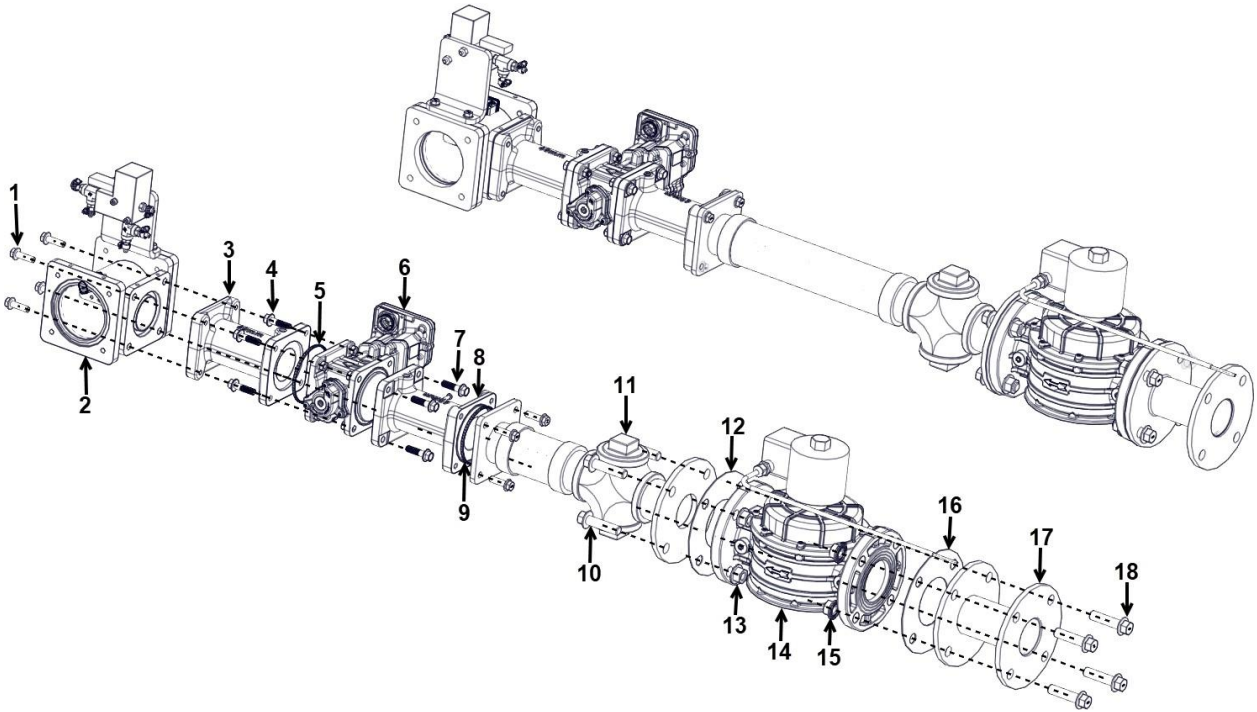
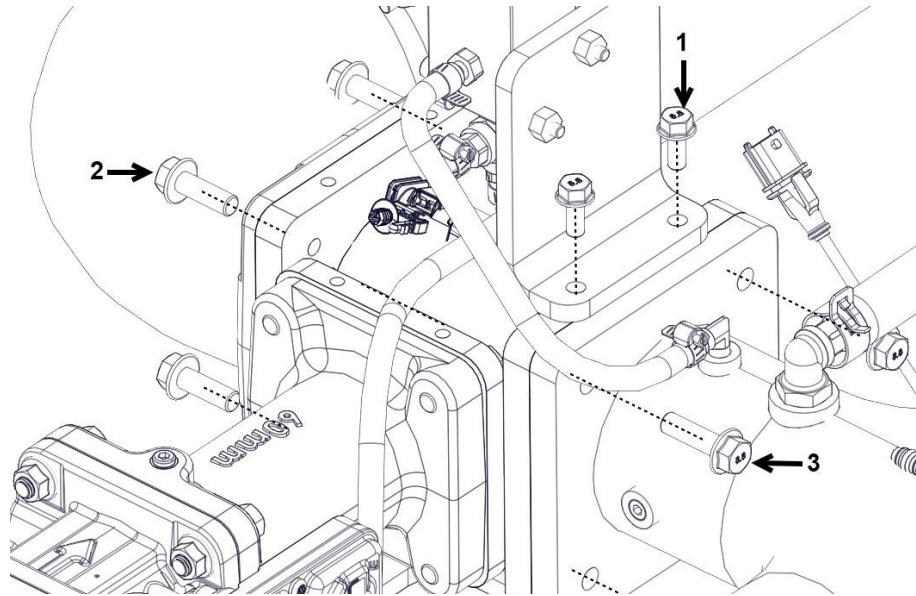

Figure 31. Fuel System Assembly
Figure 34.
- If the fuel system is removed use all new gaskets and O-rings (Figure 31, Items 5, 9, 12 & 16)
1. Remove the four bolts and nuts (Figure 31, Item 10, 13, 15 & 18) from the lock-off valve (Figure 31, Item 14).
4. Remove the two bolts (Figure 34, Item 1) on the electronic boost control bracket and remove all bolts on the nozzle (Figure 34, Items 2 & 3).
2. Insert and hand tighten the four bolts and nuts (Figure 31, Item 10, 13, 15 & 18) from the lock-off valve (Figure 31, Item 14)
5. Torque the four bolts and nuts (Figure 31, Item 10, 13, 15 & 18) from the lock-off valve (Figure 31, Item 14) to 30 ft/lb.
8. Install a new O-ring onto the nozzle (Figure 31, Item 2) then insert the air filter and torque down all four bolts (Figure 34, Item 2) to 22 ft/lb.
9. On the opposite end of the nozzle (Figure 31, Item 2) insert and torque down the four bolts (Figure 34, Item 3) to 30 ft/lb.
10. Place the electronic boost control bracket onto the nozzle and insert and torque down the two bolts (Figure 34, Item 1) to 22 ft/lb.